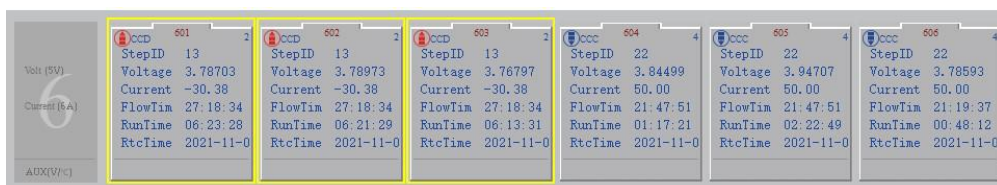

Figure 4-19 Select the channels
- Click the channel to select the battery. If the yellow border is displayed, the channel is selected, as shown in Figure 4-19.